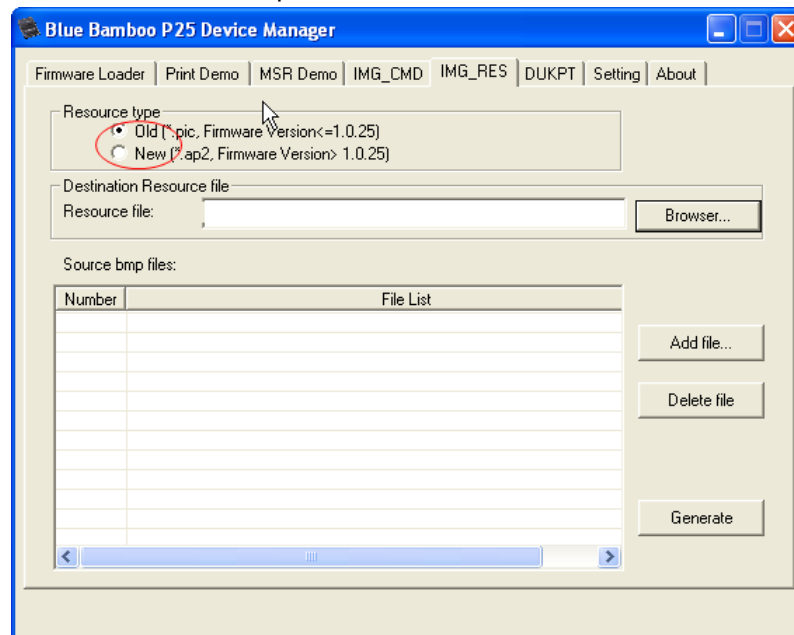

Figure 38
- b. Choose the corresponding **Resource type** according to the firmware version in your P25 printer. If the firmware version is $\leq 1.0.25$, select **Old** and the resource file will be generated as PIC file. If the firmware version is $> 1.0.25$, select **New** and the resource file will be generated as AP2 file. (Figure 38).